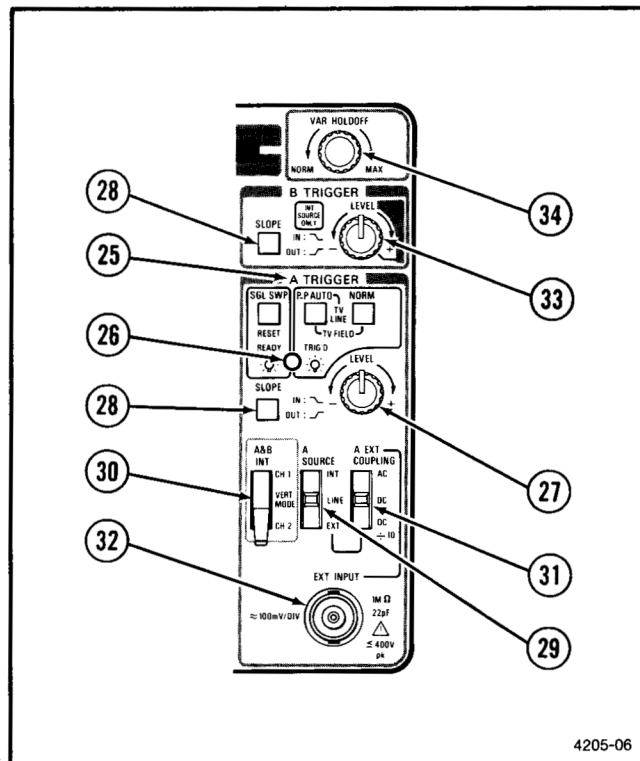

Fig. 2-6. Trigger controls, connector, and indicator.
Refer to Figure 2-6 for location of items 25 through 34.